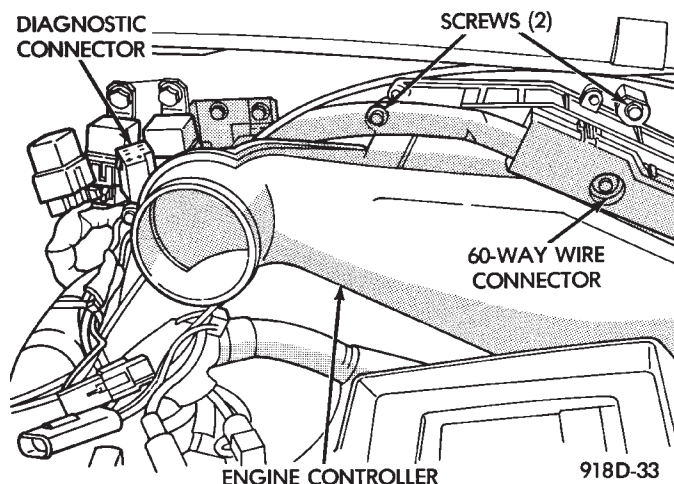

Fig. 17 Engine Controller Electrical Connector
(27) Verify the 60-way connector is fully inserted into the socket on the Engine Controller (Fig. 17).